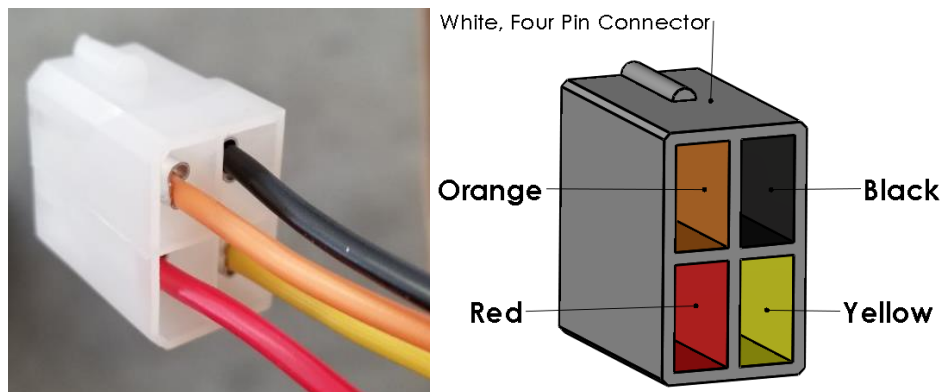

Figure 13
34. Locate the White Four Pin Connector included in the kit. Insert the Orange, Red, and Yellow wires into the White Four Pin Connector in the orientation shown in Figure 13. The metal terminals will snap into place if installed properly.
35. Insert the Single Black Conductor wire in the orientation shown below in Figure 13 ensuring it snaps into position.
NOTE: If the fan does not work on all three speeds refer to Figure 9 and Figure 13 to verify that each wire is securely attached and in the correct orientation. Also verify that both the auxillary power cable and ground cable are securely attached.